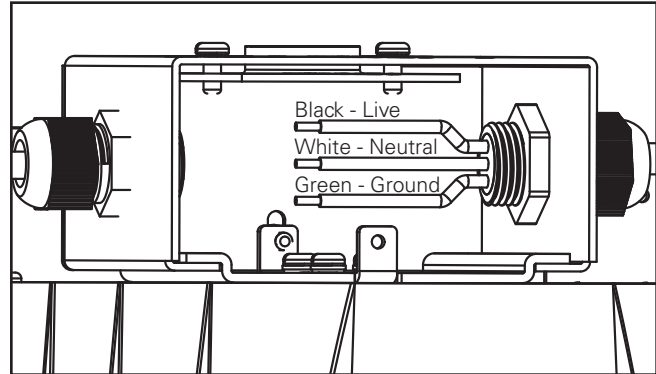

Figure 6.
- 11. Wire according to NEC code. (Figure 6)